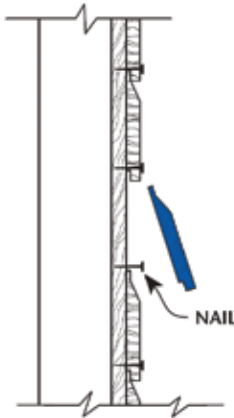

Figure 5
- After setting the nails, the procedure is practically the same as that for clapboards. The chisel is inserted under the lower edge of the board to be removed and pried outward (Figure 5). As the illustration of the shiplap joint shows in Figure 5 there is nothing to prevent the removal of the board.